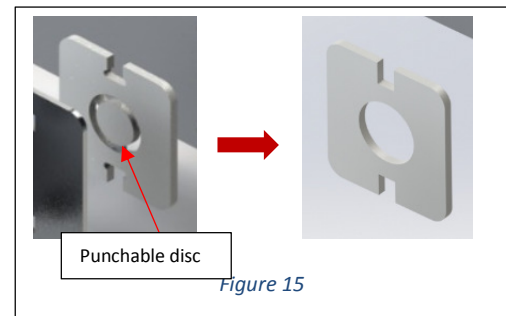

Figure 15
- Remove the punchable disc on *each* I-to-C spacer. (see Figure 15)